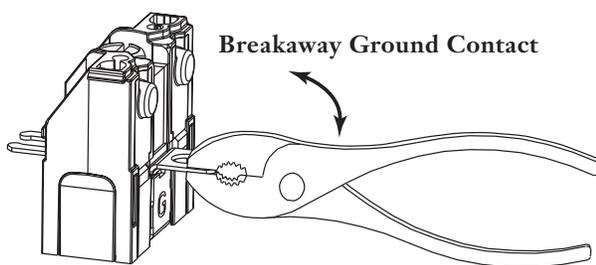

Figure 1 — Break Away Unused Contact
**Step 1** Verify the direction the protector is to be mounted. Break off the unused contact before the module is to be mounted (Figure 1).